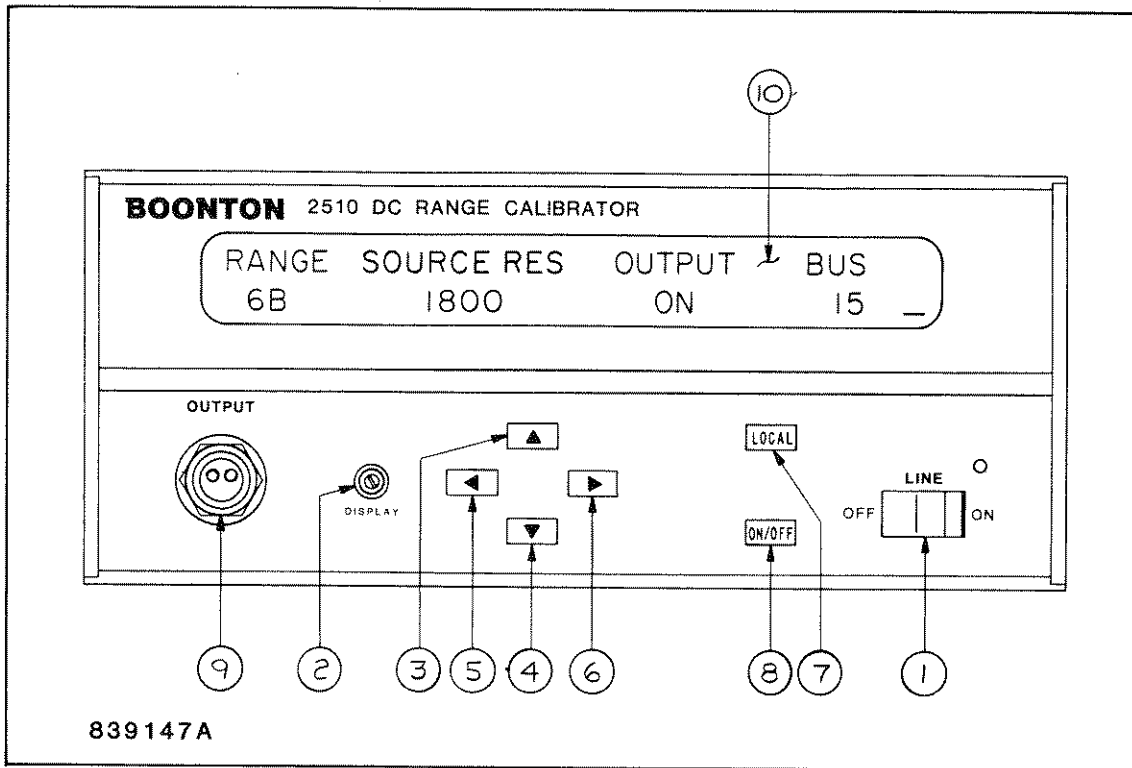

Figure 3-1. Front Panel
**3-2. OPERATING CONTROLS, INDICATORS, AND CONNECTIONS.** The controls, indicators, and connections are listed in Table 3-1, and are shown in Figures 3-1 and 3-2.